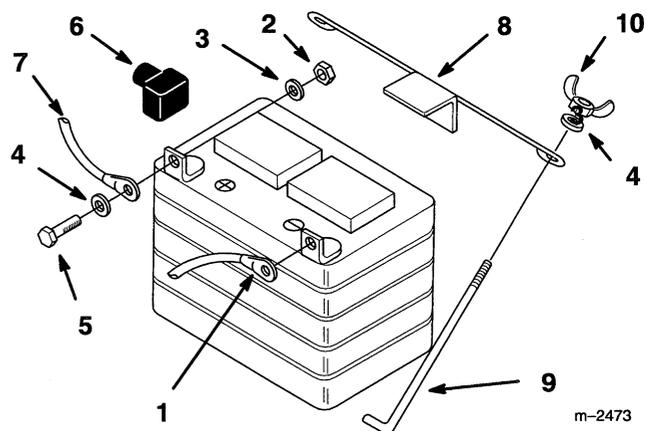

Figure 35
3. Disconnect the negative (black) ground cable from the battery post (Fig. 35).
4. Lift the rubber cover up on the positive (red) cable. Disconnect the positive (red) cable from the battery post (Fig. 35).
5. Remove the battery hold down rods (Fig. 35). Lift battery from tractor
6. Install the battery into the chassis (Fig. 35).
7. Secure battery in chassis with hold down rods, washers and wing nuts (Fig. 35).
8. Using the bolt washers and nut, connect the positive (red) cable to the positive (+) battery post (Fig. 35). Slide the rubber cover over the battery post.
9. Using the bolt, washer and nut, connect the negative (black) cable to the negative (-) battery post (Fig. 35).